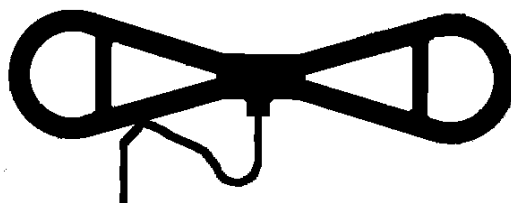

Figure 1, Antenna Tie Wrap Modification
31. Referring to Figure 1, measure back 4” from the connector that attaches to the Figure 8 Loop. Place that point on the cable next to the Figure 8 Loop and place a Cable Tie (5878-0016) on it. This will stop the cable from being pulled out of the Antenna Cable Connector.